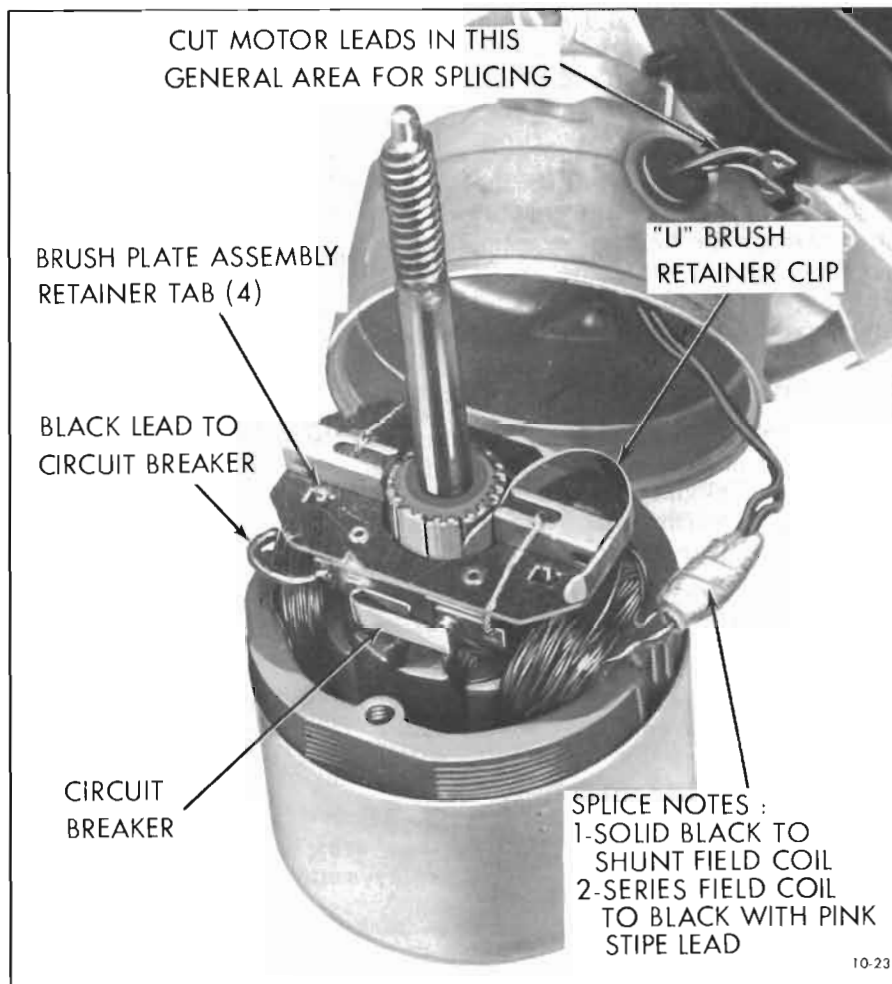

Figure 10-23—Motor Disassembly
2. The end case and field assembly is serviced as a unit. To free the field and case assembly, cut the solid black and black with pink stripe leads in a location convenient for splicing - preferably near the wiper terminal board. Refer to Figure 10-23.
4. Unsolder the black lead from circuit breaker. See Figure 10-23.
5. Straighten out the 4 tabs that secure the brush plate to the field coil retainers. (Figure 10-23)
6. Install "U" shaped brush retainer clip over brush holder that has brush lead attached to circuit breaker. See Figure 10-23.
7. Remove brush retainer clips and resolder circuit breaker ground lead to circuit breaker. Refer to Figure 10-23.